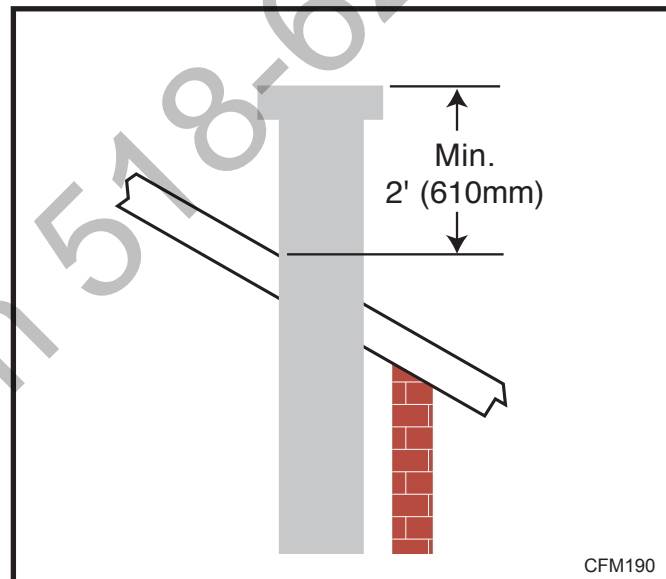

Fig. 33 Minimum termination to roof clearance.
10. Add additional vent lengths for proper height. (Fig. 33)